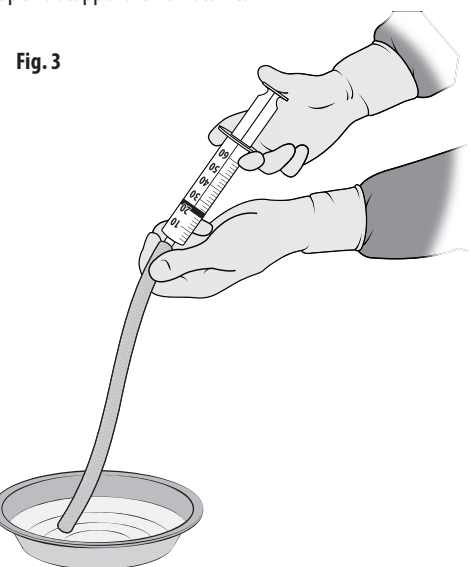

Fig. 3
1. Use a sterile syringe to flush the lumen of the prosthesis with 20 ml of sterile physiological saline. Fig. 3. Repeat at least twice.